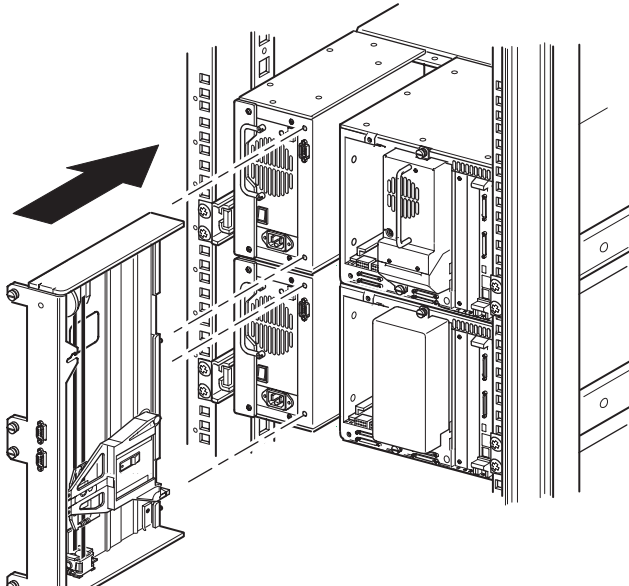

Figure 2-6. Installing the PTM base unit
4. Install the PTM base unit (see Figure 2-6).
1. Support the extended PTM from the bottom (see Figure 2-6).